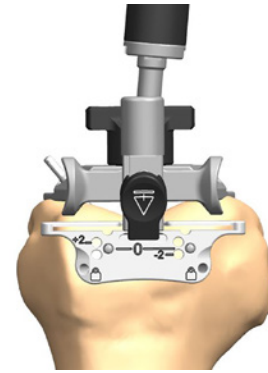

Figure 8
- Using non-headed 65mm SPEED PIN®(s), pin the Distal Femoral Cutting Block to the anterior femur using the holes marked '0'. Once adequate distal femoral resection is noted, headed or non-headed 65mm SPEED PIN(s) should be placed in one or both oblique pin holes for additional stability (Figure 8).